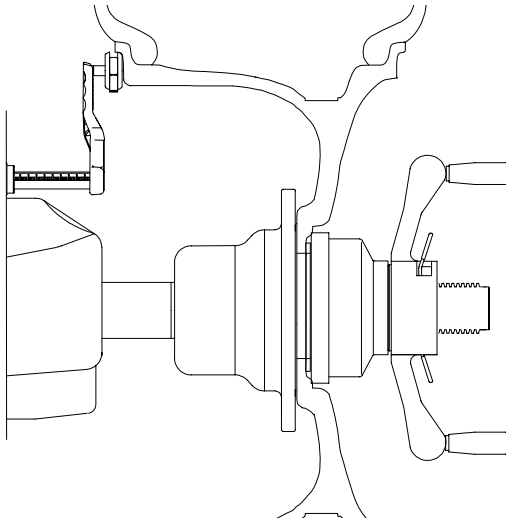

Figure 22
**4.5.1 Rim Distance (offset) and Diameter** - Move the rim offset/diameter arm to the edge of the rim, touch the pointer to the rim edge as illustrated in Figure 22 and hold steady for about a second. The beeper will sound and the distance and diameter values will be calculated and entered automatically. Return the arm to its fully in and down position on the balancer. Do not allow the measurement arm to "dangle" down in front of the balancer.